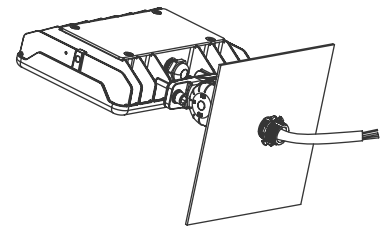

Fig. 1.5
4. Pass threads of knuckle bracket through mounting surface and secure with lock nut (Fig. 1.5).